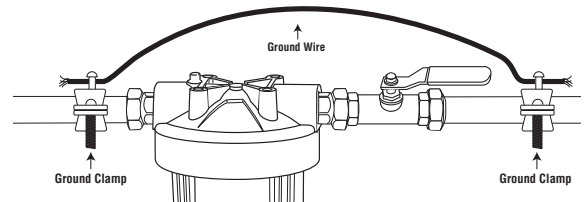

Figure 2
- If the home electrical system requires use of the cold water system as an electrical safety ground, a jumper **must** be used to ensure a sufficient ground connection across the filter installation piping — refer installation to qualified personnel. (see Figure 2)